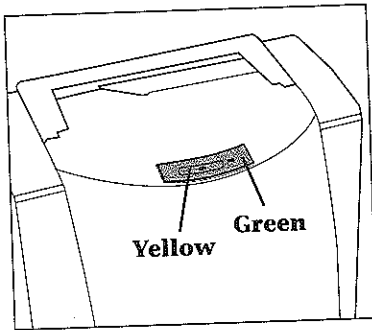
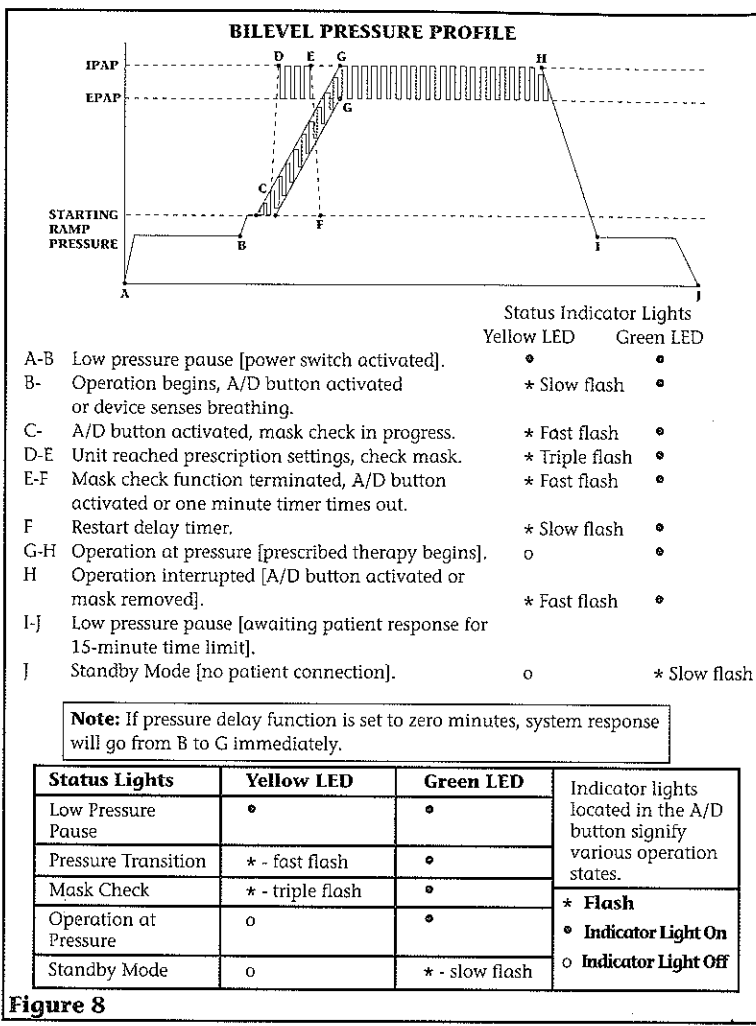

Figure 5
Figure 8
- Press power switch to the "On" position. The green indicator light located by the A/D button will illuminate indicating power on, and the blower will operate at a low pressure level. A yellow indicator light located in the A/D button may illuminate or flash **Figure 5**. This yellow light is a status light and is used to verify the current state of operation. Refer to the *Status Lights* in **Figure 8** on page 10 of this guide for further explanation.
Pressure delay is an optional feature used specifically during start up to ease the difficulty of falling asleep. Pressure delay allows you to fall asleep at low, more comfortable pressures. This procedure is defined as a gradual increase in system delivery pressure, starting at low pressures and slowly increasing to prescription pressures over a period of time **Figure 8**. The pressures will remain at the prescribed level for the remainder of the night if no patient interference is detected.